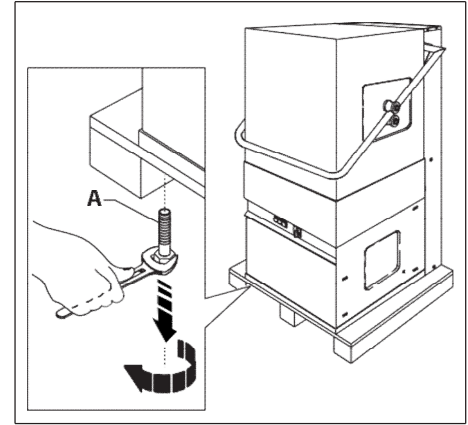

Fig. 3
2. Remove the two screws A which secure the dishwasher to the transport pallet (fig. 3)